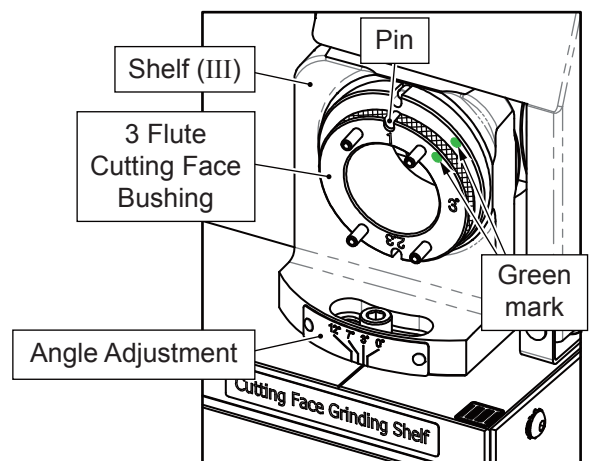

Fig. 9-3
3. Cutting Face Grinding Shelf (III) (Fig. 9-3)
- ① Adjust Shelf (III) to 3° .
- ② Insert 3 Flute Cutting Face Bushing to Shelf (III), align the ● Green mark of the Bushing with the ● Green mark on the shelf, then insert it to the end.